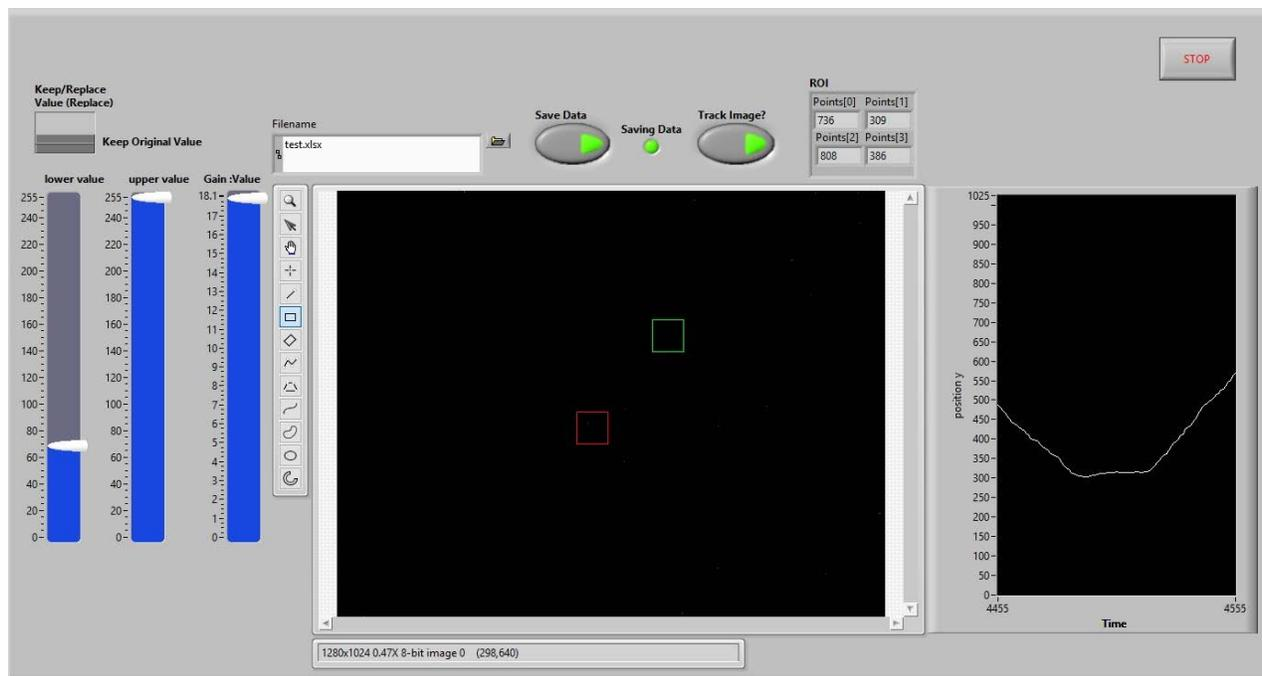

FIG. 3: Software display image. Right image corresponds to motion upward (left), rest and fall
- Slide “Upper Gain” to its top position as in Fig.3. Manage the display illumination by moving the “Lower Gain” slowly up to increase brightness to dark grey.
- Squeeze the rubber bulb (2) two-three times to let a bunch of droplets inside the chamber (1). The main display will show a “snowfall” of dots of different sizes and brightness. At the high voltage applied, it is recommended that you begin observing the droplets that are slowly moving upward. To locate and track a droplet, you will have to slightly adjust brightness by the “Lower Gain” and focus on a specific droplet by tuning a knob mounted on the microscope (7).
- Quickly turn off voltage with the knob (5). The droplet will start moving downwards still been enclosed in the red frame. If the droplet comes out of the red frame, turn off Save Data, and begin looking for another drop. Update software for your next trial.
- Figure 3 shows three different modes of motion of the same trapped oil drop. You are recommended to try a similar experiment, which combines measuring of (a) the stop voltage, (b) terminal speed in the free fall, and (c) voltage V_{up} and the terminal speed of moving upward under the voltage V_{up} . Thus, each trapped oil drop can be used for both Method 1 and Method 2.
- Create a table of raw data for stop voltage, V_{up} and terminal velocities for the two methods and the calculated charge of the drop according to the Eqs. (4) and (5). At least 50 trials are recommended.